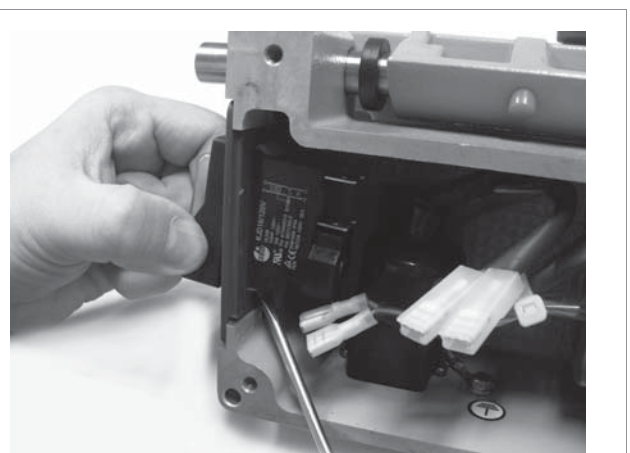

Fig. 36
- 3) Remove the switch making pressure on the tabs with a screwdriver (Fig. 36).